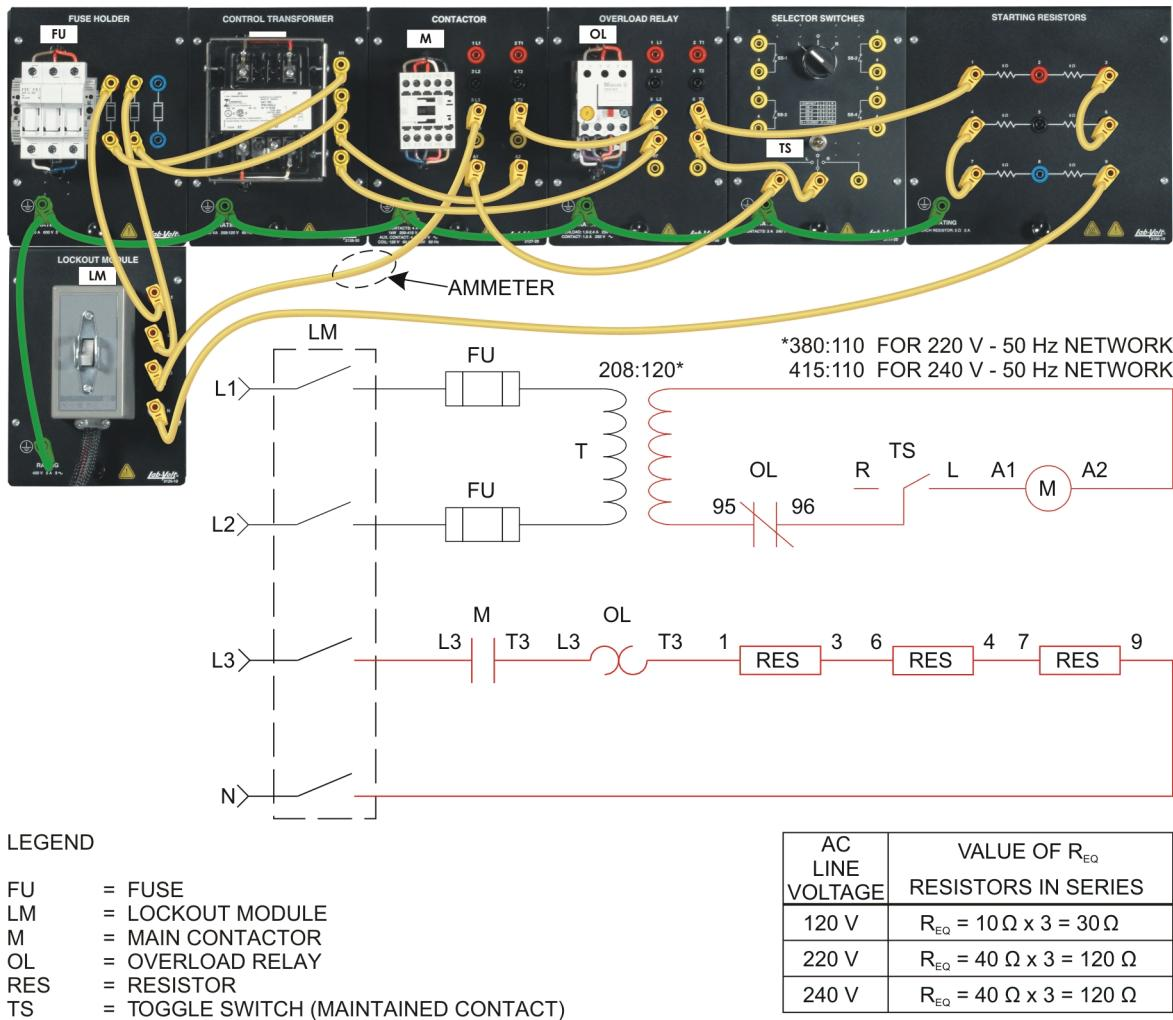

Figure 1-26. Overload Relay tripping circuit.
12. In the Figure 1-26 circuit, what would happen in case of a short-circuit (if the only short-circuit protection device is the Fuse Holder)?
16. Connect the circuit shown in Figure 1-26.
Clamp an ammeter around power line 3 as shown in Figure 1-26.